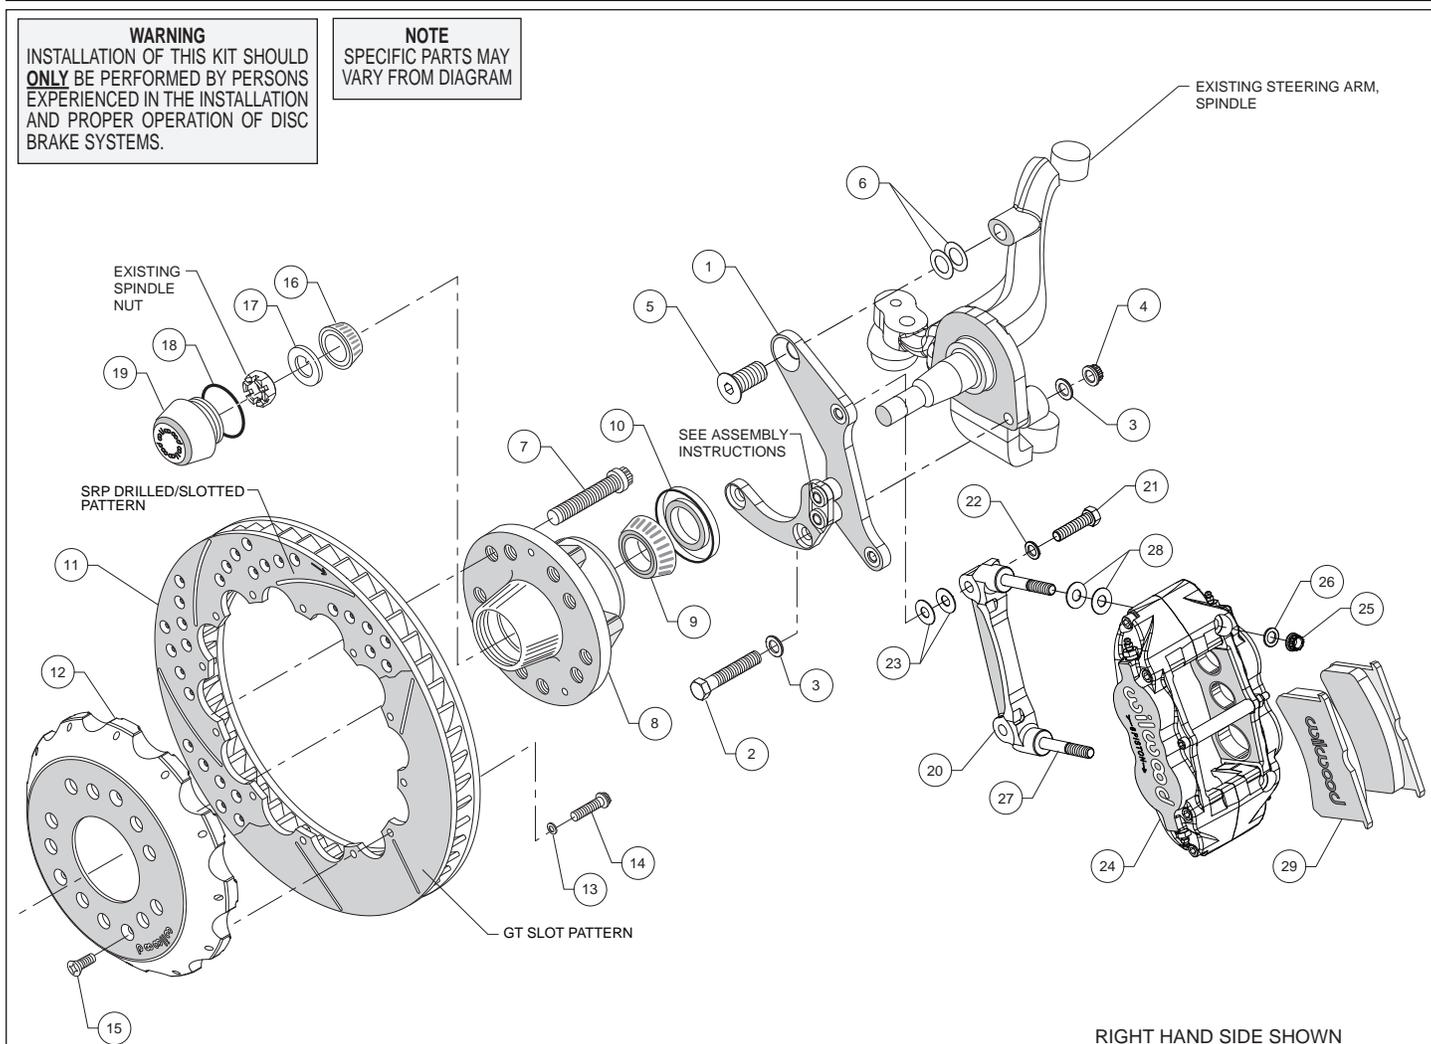
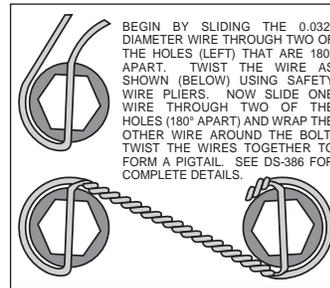
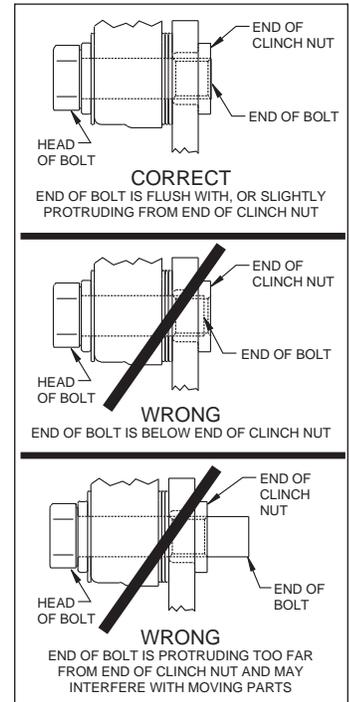

Figure 1. Typical Installation Configuration
Figure 3. Safety Wire Diagram
Figure 4. Clinch Nut Engagement Diagram
Assembly Instructions (numbers in parenthesis refer to the parts list and Figure 1 on the preceding pages): **CAUTION:** All mounting bolts must fully engage clinch nuts. Be sure to check that all bolts are either flush or protruding through flanged side of clinch nut after shimming, Figure 4.
- The spindle bracket (1) has been assembled at the factory for alignment purposes. Loosen the two bolts that secure the brackets together so that the bolts are hand tight only. This will enable the bracket assembly to be adjusted to accommodate various spindle tolerances during assembly. Align bracket with the two lower holes on the spindle face and attach using bolts (2), washers (3), and secure using nuts (4), as shown in Figure 1 and Photo 1. Install bolt (5) through top of bracket while placing shims (6) between bracket and spindle, Figure 1. Initially use two .024" thick shims (6) on the top bolt between the bracket and upright. Temporarily tighten the mounting bolts. Ensure that the flanged heads of the clinch nuts in the bracket are facing outboard, Photo 1. **NOTE:** The bracket must fit squarely against the mounting points on the spindle. Inspect for interference from casting irregularities, machining ridges, burrs, etc. Some spindles may require a small amount of grinding to clear the bracket assembly in the area of the bracket-to-bracket spacers.
- Check that the bracket is aligned parallel to the rotor by assembling and installing the hub/rotor per the step below. If not, adjust by adding or subtracting shims (6) between the spindle and bracket, Figure 1.
- Install wheel studs (7) into the hub (8), Photo 2. Torque to 77 ft-lb. **NOTE:** There are two five lug patterns in the hub (5 x 4.50 and 5 x 4.75). Ensure the correct hub stud pattern is being used to fit the wheel application.
- Pack the large inner bearing cone (9) with high temperature disc brake bearing grease (available from your local auto parts store) and install into the backside of the hub (8), Photo 3.
- Install the grease seal (10) by pressing into the backside of the hub (8), flush with the end of the hub, Photo 3.
- Orient the rotor (11) and the hat (12) as shown in Figure 1 and Photo 4. Attach rotor to hat using bolts (14) and washers (13). Using an alternating sequence, apply red *Loctite*® 271 to the threads, and torque to 155 **in-lbs**. For an added measure of security, the bolts may be safety wired using standard 0.032 inch diameter stainless steel safety wire as shown in Figure 3. Refer to Wilwood's data sheet DS-386 (available at www.wilwood.com/Pdf/DataSheets/ds386.pdf) for complete safety wire installation instructions.
- The caliper mount bracket (20) should initially be installed with clean, dry threads on the mounting bolts. Orient the bracket as shown in Figure 1 and Photo 7, and install using bolts (21) and washers (22). Initially place two .035" thick shims (23) on each bolt between the bracket and the spindle bracket (1), Figure 1. Temporarily tighten the mounting bolts. Later, after the caliper alignment has been checked, the mount bolts will be secured using red *Loctite*® 271.
- **NOTE:** *This kit contains distinct right and left hand calipers that must be mounted in a specific direction, as described below.* Lubricate the caliper mounting studs (27) with lightweight oil. Initially place two .035" thick shims (28) on each stud between the caliper and the bracket, as shown in Figure 1 and Photo 8. Mount the caliper (24) onto the bracket (27) using lock nuts (25) and washers (26), Figure 1. Ensure that the caliper is mounted so the largest pistons are at the rotor exit end of the caliper, in relation to the direction of rotor rotation. Temporarily tighten the lock nuts and view the rotor through the top opening of the caliper. The rotor should be centered in the caliper, Photo 9. If not, adjust by adding or subtracting shims (23) between the spindle bracket (1) and the caliper bracket.
- Always use the same amount of shims on each of the two mounting bolts. **NOTE:** *The end of each bolt must be flush with or slightly protruding from the head of the clinch nut, as shown in Figure 4.* If necessary place spare shims between washer (22) and caliper mounting bracket to achieve the proper clinch nut engagement. Once the caliper alignment and clinch nut engagement are correct, remove the bolts one at a time, apply red *Loctite*® 271 to the threads, and torque to 40 ft-lb.